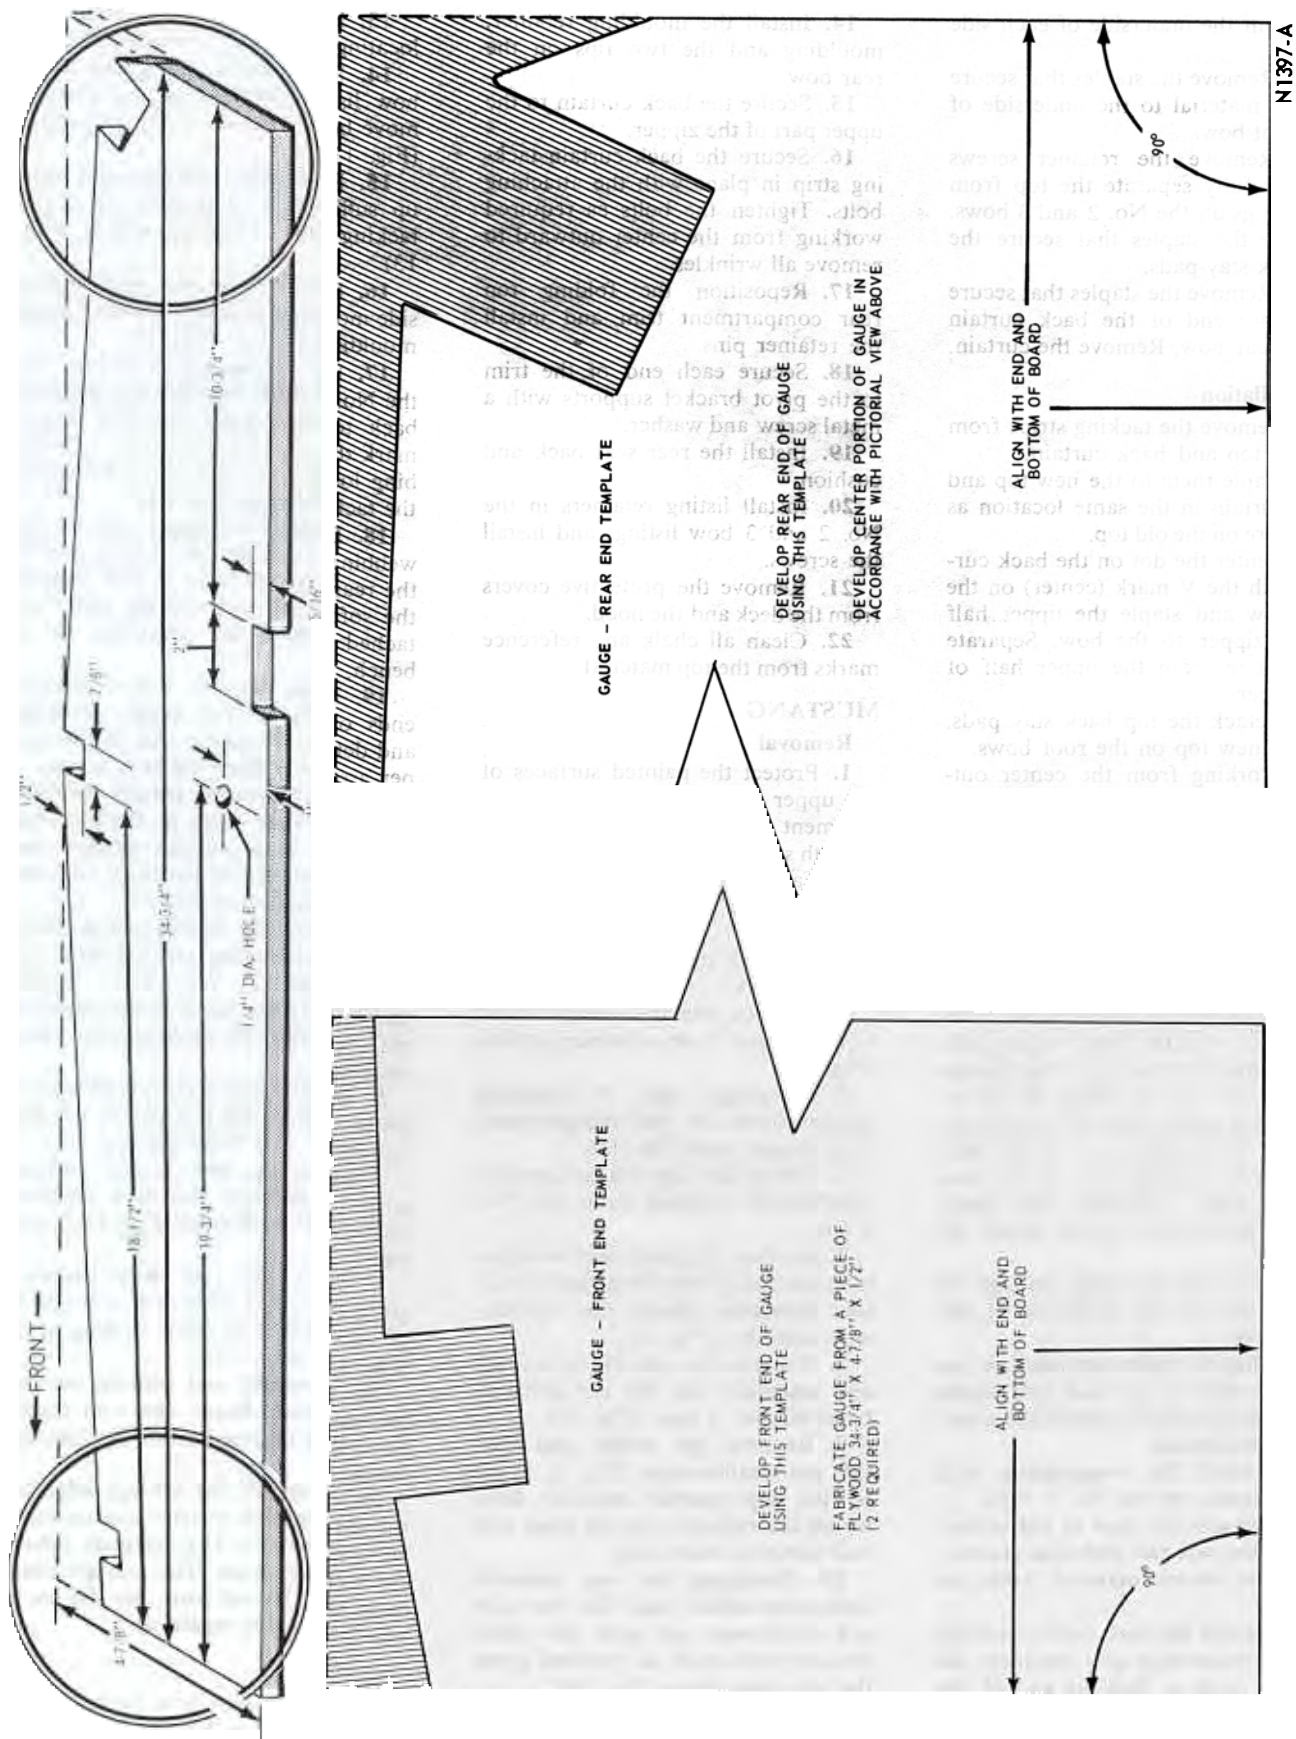

FIG. 11—Bow Locating Gauge Fabrication
2. Fabricate two bow locating gauges to the dimensions shown in Fig. 11.